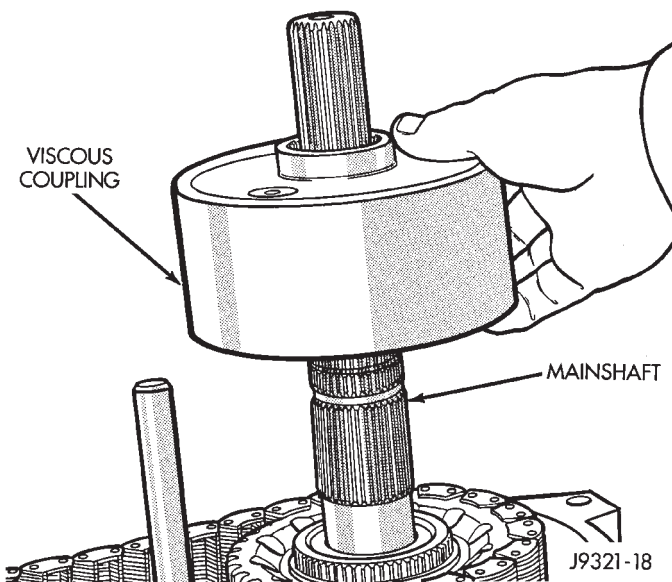

Fig. 18 Viscous Coupling Removal
(18) Remove viscous coupling from mainshaft (Fig. 18).